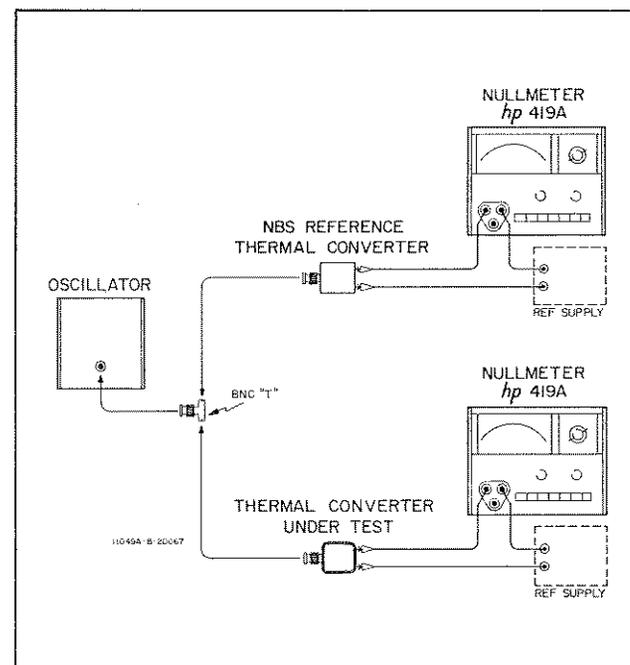

Figure 6. Thermal Converter Calibration
24. Figure 6 shows the setup for calibrating a thermal converter to an NBS calibrated reference thermal converter. With this setup, the thermal converter can be calibrated to within $\pm 0.005\%$ of the reference thermal converter. The following steps describe the calibration procedure.
- b. Connect both thermal converters, both reference supplies, both null meters, and the test oscillator as shown in Figure 6. Keep connections to thermal converters as short as possible.